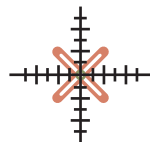

Fig. 33
The flashing bearing aid (X) in the middle of the reticle indicates that the binoculars are ready to take a measurement, see Fig. 33.